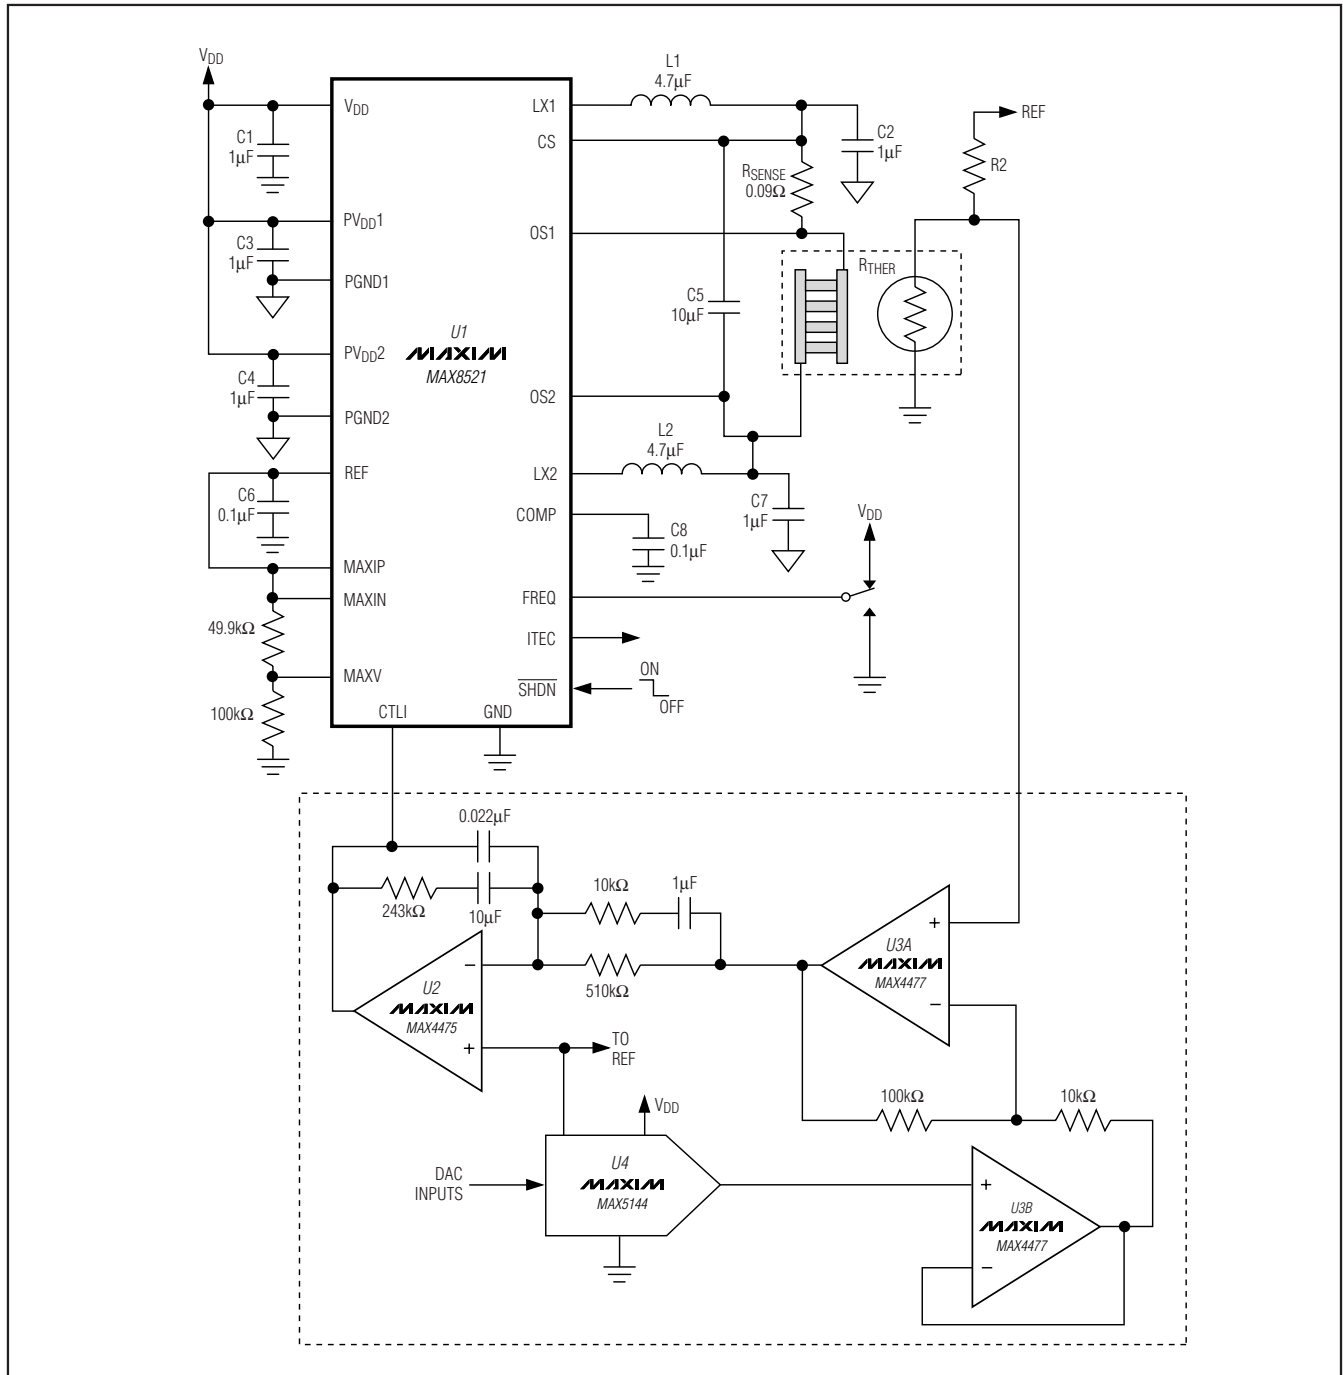

Figure 1. MAX8521 Typical Application Circuit
($V_{DD} = 5V$, circuit of Figure 1, $T_A = +25^\circ C$ unless otherwise noted)
The MAX8520/MAX8521 TEC drivers consist of two switching buck regulators that operate together to directly control the TEC current. This configuration creates a differential voltage across the TEC, allowing bi-directional TEC current for controlled cooling and heating. Controlled cooling and heating allow accurate TEC temperature control to within 0.01°C. The voltage at CTLI directly sets the TEC current. An external thermal-control loop is typically used to drive CTLI. Figures 1 and 2 show examples of the thermal-control-loop circuit.
Table 1. TEC Connection for Figure 1
The MAX8520/MAX8521 include an on-chip voltage reference. The 1.50V reference is accurate to 1% over temperature. Bypass REF with 0.1μF to GND. REF can be used to bias an external thermistor for temperature sensing as shown in Figures 1 and 2.
The common-mode filter capacitors (C_2 and C_7 of Figure 1) are used as filter capacitors to ground for each output. The output ripple voltage depends on the capacitance, the ESR of these capacitors, and the inductor ripple current. Ceramic capacitors are recommended for their low ESR and impedance at high frequency.
The differential-mode filter capacitor (C5 in Figure 1) is used to bypass differential ripple current through the TEC as the result of unequal duty cycle of each output. This happens when the TEC current is not at zero. As TEC current increases from zero, both outputs move away from the 50% duty-cycle point complementarily. The common-mode ripple decreases, but the differential ripple does not cancel perfectly, and there will be a resulting differential ripple. The maximum value happens when one output is at 75% duty cycle and the other is at 25% duty cycle. At this operating point, the differential ripple is equal to 1/2 of the maximum common-mode ripple. The TEC ripple current determines the TEC performance, because the maximum temperature differential that can be created between the terminals of the TEC depends on the ratio of ripple current and DC current. The lower the ripple current, the closer to the ideal maximum. The differential-mode capacitor provides a low-impedance path for the ripple current to flow, so that the TEC ripple current is greatly reduced. The TEC ripple current then can be calculated as follows:
There are numerous ways to implement the thermal loop. Figures 1 and 2 show designs that employ precision op amps, along with a DAC or potentiometer to set the control temperature. The loop can also be implemented digitally, using a precision A/D to read the thermistor or other temperature sensor, a microcontroller to implement the control algorithm, and a DAC (or filtered-PWM signal) to send the appropriate signal to the MAX8520/MAX8521 CTLI input. Regardless of the form taken by the thermal-control circuitry, all designs are similar in that they read temperature, compare it to a set-point signal, and then send an error-correcting signal to the MAX8520/MAX8521 that moves the temperature in the appropriate direction.
6) To ensure high DC-loop gain and minimum loop error, keep the board layout adjacent to the negative input pin of the integrator (U2 in Figure1) clean and free of moisture. Any contamination or leakage current into this node can act to lower the DC gain of the integrator which can degrade the accuracy of the thermal loop. If space is available, it can also be helpful to surround the negative input node of the integrator with a grounded guard ring.